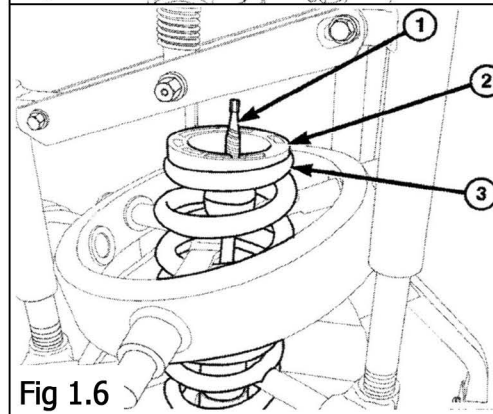

Fig 1.6
14. Separate strut mounting from coil spring. Install spacer between strut mount rubber insulator and coil end locator. See Fig 1.6. spacer goes between #2 and #3.